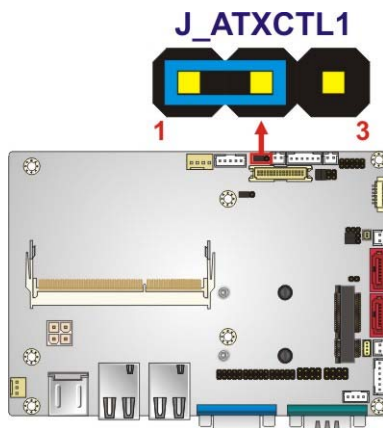

Figure 4-2: AT/ATX Power Selection Jumper Location
- Jumper Location:** See Figure 4-2